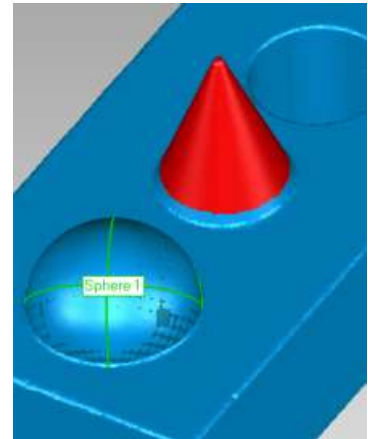

Figure 60
1. Make the **selection** on the **conical** region in the same way as you did with the **Sphere**; review the **Sphere** steps for reference. The selected region should appear as shown in **Figure 60**.